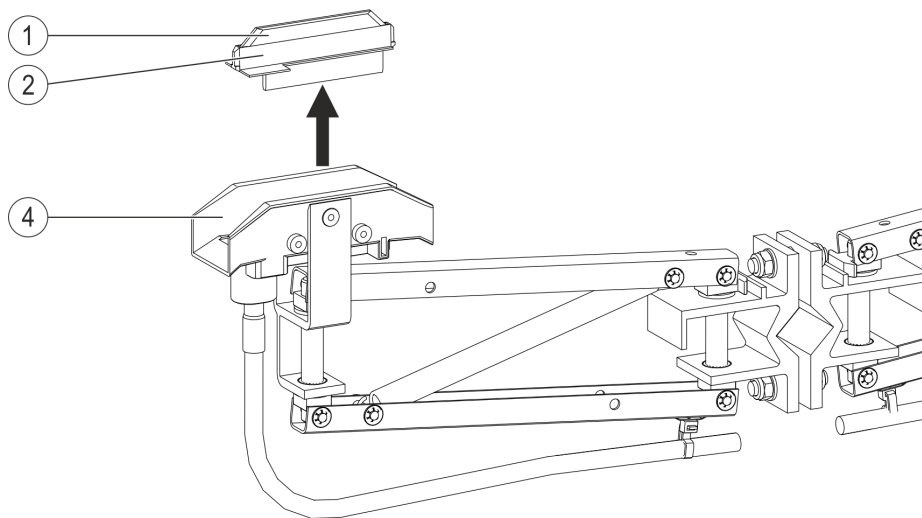
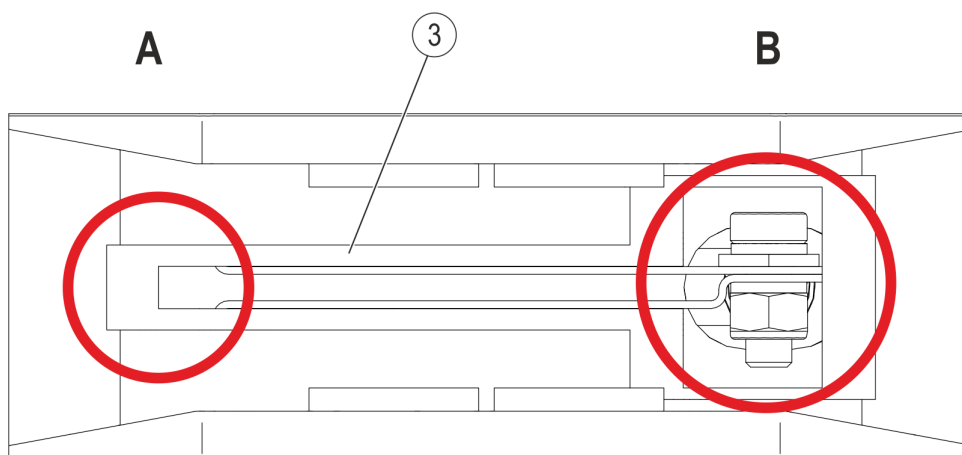
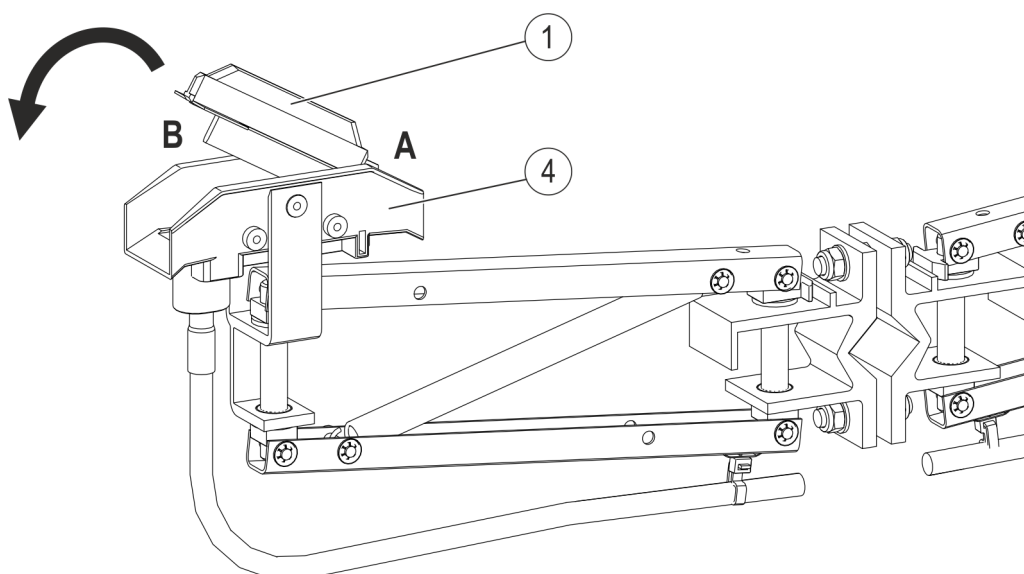

Fig. 132: Remove sliding contact (Pos. 1) and plastic insulation (Pos. 2)
Fig. 133: Farthest side (A) and narrowest side (B) of the contact plate (Pos. 3)
Fig. 134: Sliding contact cut-out on the side of the rail
In order to replace the sliding contact (Pos. 1) (see Fig.132), the following work steps must be conducted:
- Hold the current collector head firmly and use water pump pliers to adjust the sliding contact (Pos. 1) with its plastic insulation (Pos. 2) pulled out. Start pulling out on the more open side (= side A in Fig. 133) of the contact plate (Pos. 3) (see Fig 132 and Fig. 133).
- Clean the area under the plastic insulation (Pos. 2), particularly the contact surface of the contact plate (Pos. 3) (see Fig. 133).
- Press the new sliding contact with its plastic insulation by hand into the sliding contact insulation (Pos. 4) (see Fig. 134). Start at the more open side of the contact plate (side A in Fig. 133) and then fully insert the sliding contact while turning. No tools (such as a hammer) may be used when pressing in, as this can damage the contact surfaces of the sliding contact. Please note the following when inserting:
- The sliding contact cut-out (Pos. 1) must sit on the side of the rail (Side B) (see Fig. 134).